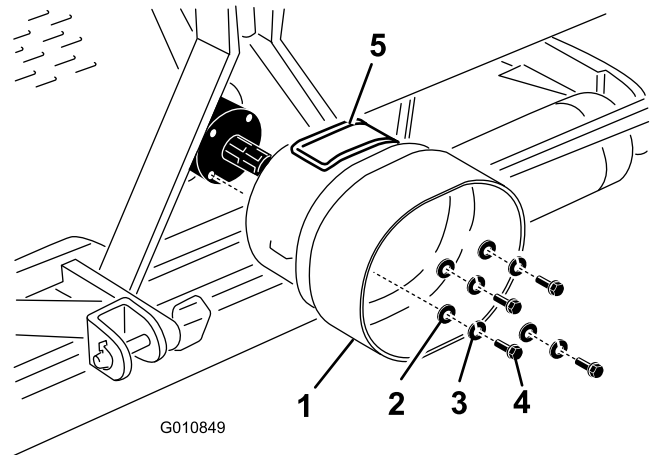

Figure 22
1. Remove the 4 bolts, lock washers, and flat washers secured to the rear of the aerator gearbox (Figure 22).
2. Mount the PTO shield to the aerator gearbox with the fasteners previously removed (Figure 22).
Align the access panel (Figure 22) of the PTO shield to the top or the side depending on the aerator frame configuration.
**Note:** You can open the access panel (Figure 22) to ease the removal and installation of the PTO shaft mounting fasteners.